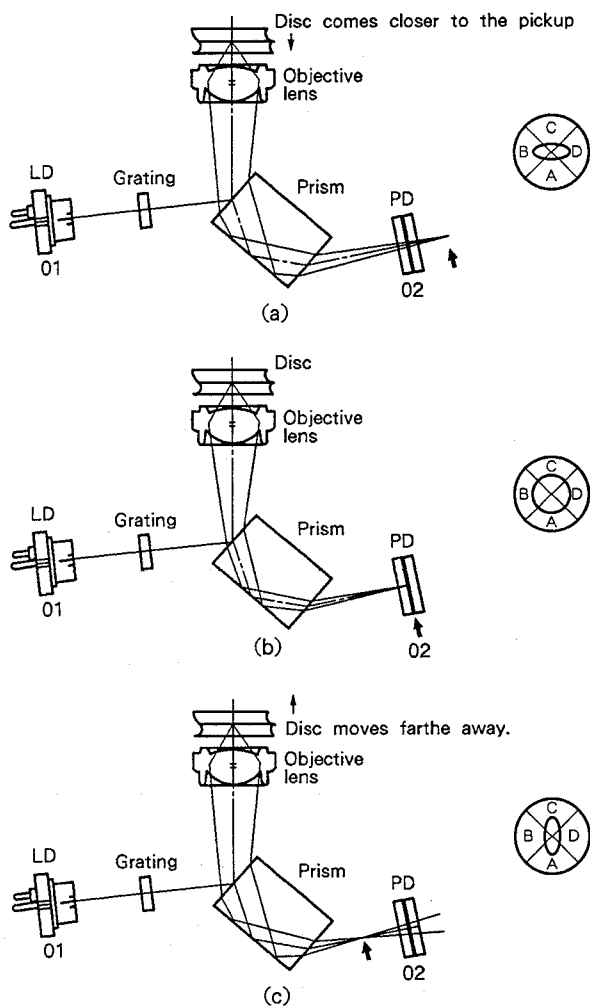
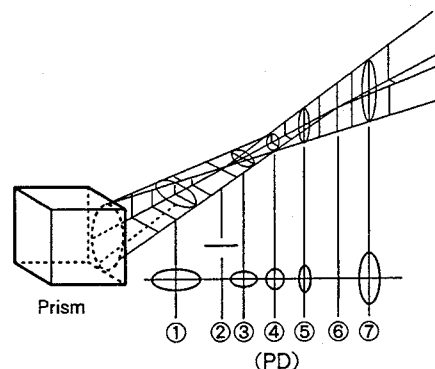

Fig. 9-4
Fig. 9-5 Quadrangular prism
In this system, the data on the disc, which is represented by pits, is converted into an electrical signal at the photodiode according to the intensity (brightness) of the reflected beam. The RF signal is then produced from this electrical signal by the arithmetic-logic circuit. Fig. 9-4 shows how the focus signal is detected.
Fig. 9-5 shows the characteristics of the quadrangular prism.
① through ⑦ shows the shape of the beam at each point. Between points ② and ⑥, which are in a straight line, the beam is circular at point ④. If we assume that Fig. 9-5 shows mode (b) of Fig. 9-4, that means the beam is circular because the photo diode is located at point ④.
In mode (a) of Fig. 9-4, the location of the photo diode is closer to the quadrangular prism than it was in Fig. 9-5. That means the shape of the beam is the same as that of point ③ (an ellipse that has a longer width than height). In mode (c) of Fig. 9-4, the shape of the beam is that of point ⑤, an ellipse that has a longer height than width.